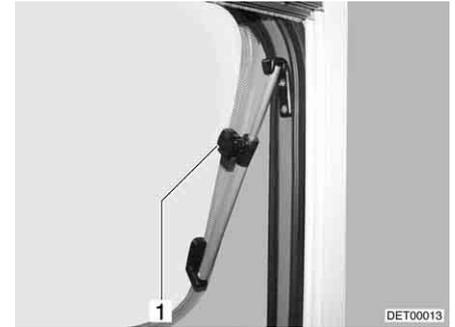

Fig. 73 Skylight with rotary hinges, open
- Open the skylight until the required position has been reached and use knurled knob (Fig. 73,1) to secure in position.
- Turn knurled knob (Fig. 73,1) until the latch is released.